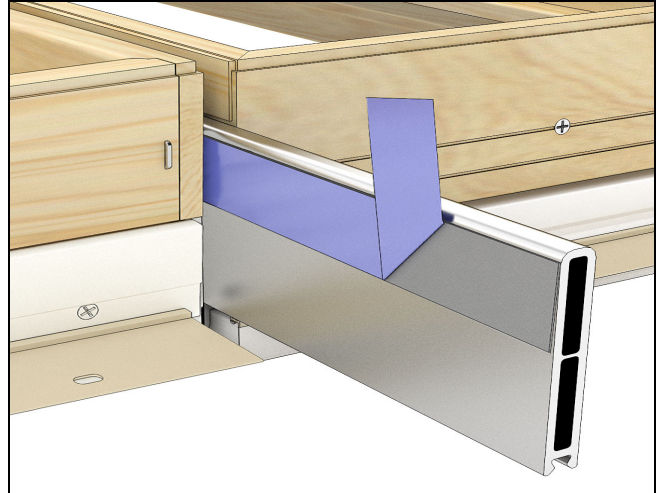

Figure 28
9. Slide the MRF onto the mull pins ensuring the mull pins fit fully into the MRF kerf. See Figure 28.